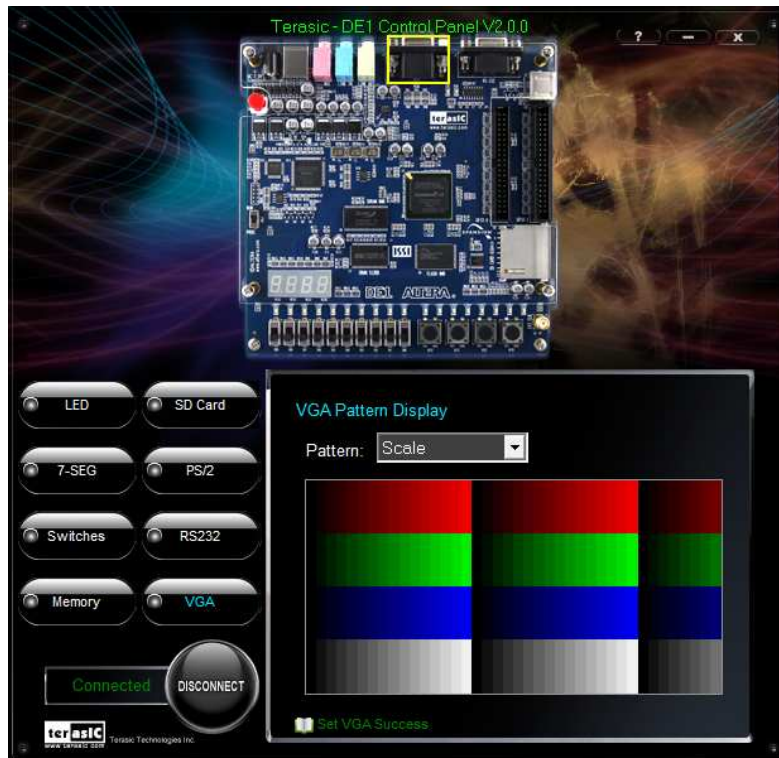

Figure 3.10. Controlling VGA display.
1. Choosing the VGA tab leads to the window in Figure 3.10.
- Click the drop down menu shown in Figure 3.10 where you can output the selected color individually.